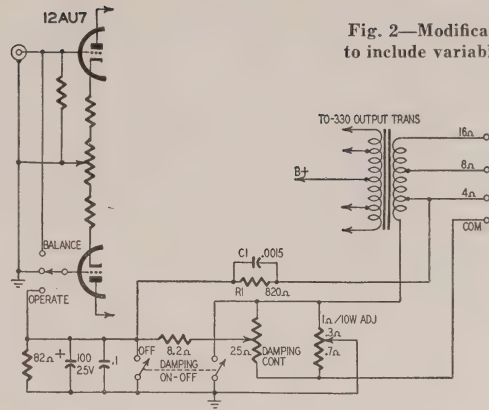

Fig. 2—Modification in feedback line to include variable damping feature.
came up with a modification (Fig. 2) that works well. The feedback circuit now includes switching so the variable-damping feature can be put out of action when using the amplifier for measurements.
7. Throw the balance switch to OPERATE. If variable damping is used, inactivate it by throwing its switch to OFF (contacts closed). Observe the reading on an output meter. It should be about 18 to 20 db down from the 1-volt reading (between 0.1 and 0.11 volt). If the reading is higher, reduce the value of feedback resistor R1 (Fig. 2) slightly; if lower, increase the value slightly. If you have a scope and square-wave generator, check the appearance of a 20- or 30-kc square wave; it should be quite vertical and with little or no trace of ringing. If the ringing is